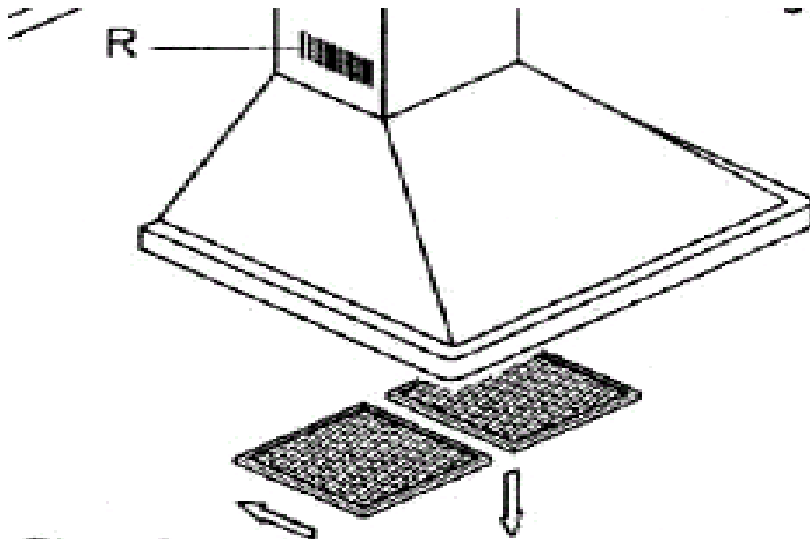

Fig. 2
- ✓ Remove the metal anti-grease filters (see Figure 2 below) and find the old bulb located in the light fixture up inside the exposed canopy. Change the halogen bulb using only suitable spares.
- 1) Press the handle of the metal grease filter towards the rear part of the unit until it is released from the front housing, and remove it by pressing downwards (Fig. 2 - above).**